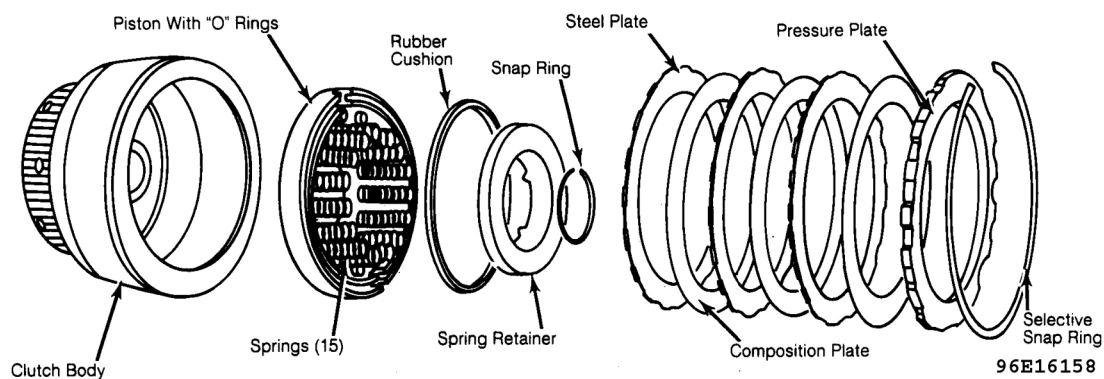

Fig. 27: Exploded View of Forward Clutch Assembly
1. Remove large retaining ring. Lift out pressure plate, clutch pack, and rubber cushion spring. Using Spring Compressor (T65L-77515-A), compress piston return springs. Remove small retaining ring. See **Fig. 27** .
6. Install new steel seals on clutch hub. See **Fig. 27**. Forward clutch selective snap rings are available in following thicknesses: .054", .068", .082", and .096" (1.37, 1.73, 2.08, and 2.44 mm).